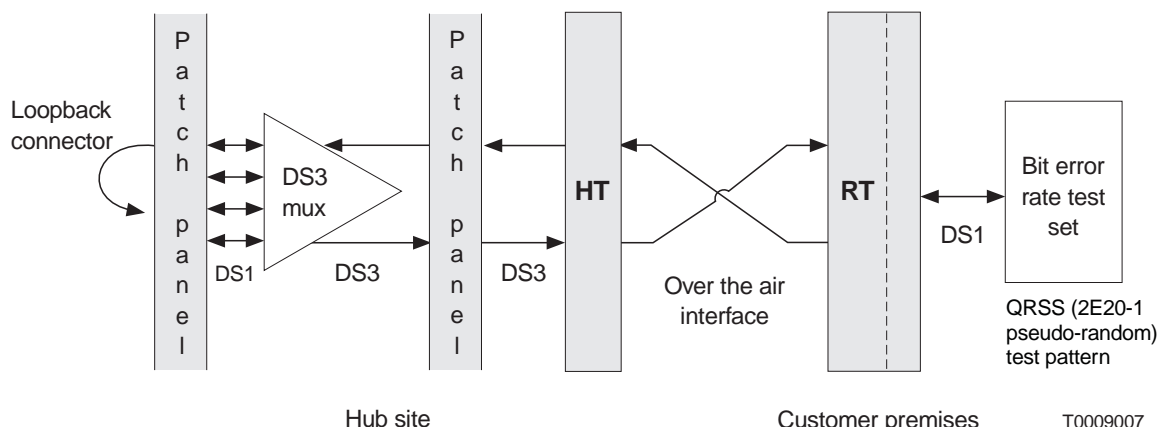

Figure 7-8 RT to HT connection test setup
- A loopback connector must be connected to the input/output port of the patch panel, as illustrated in figure 7-8.
- A loopback connector must be connected to the input/output port at the patch panel nearest to the HT. (Figure 7-8 indicates a loopback connector but also shows the patch panel nearest to the HT.)
- A loopback connector must be connected at the HT, either at the input/out port connector of the HT DS3 SSI or at the DS3 patch panel. (Refer to figure 7-8.)